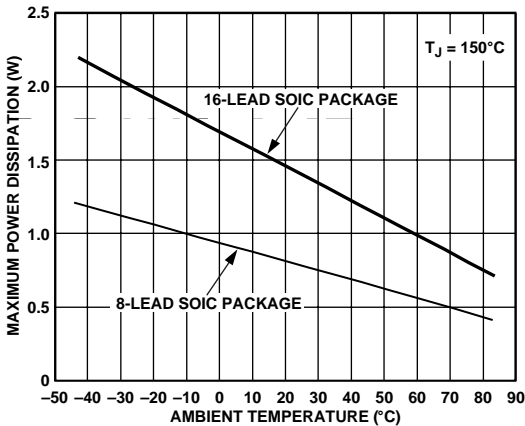

Figure 6. Maximum Power Dissipation vs. Temperature
Small Outline (R)	See Figure 6
Output Short-Circuit Duration	See Figure 6